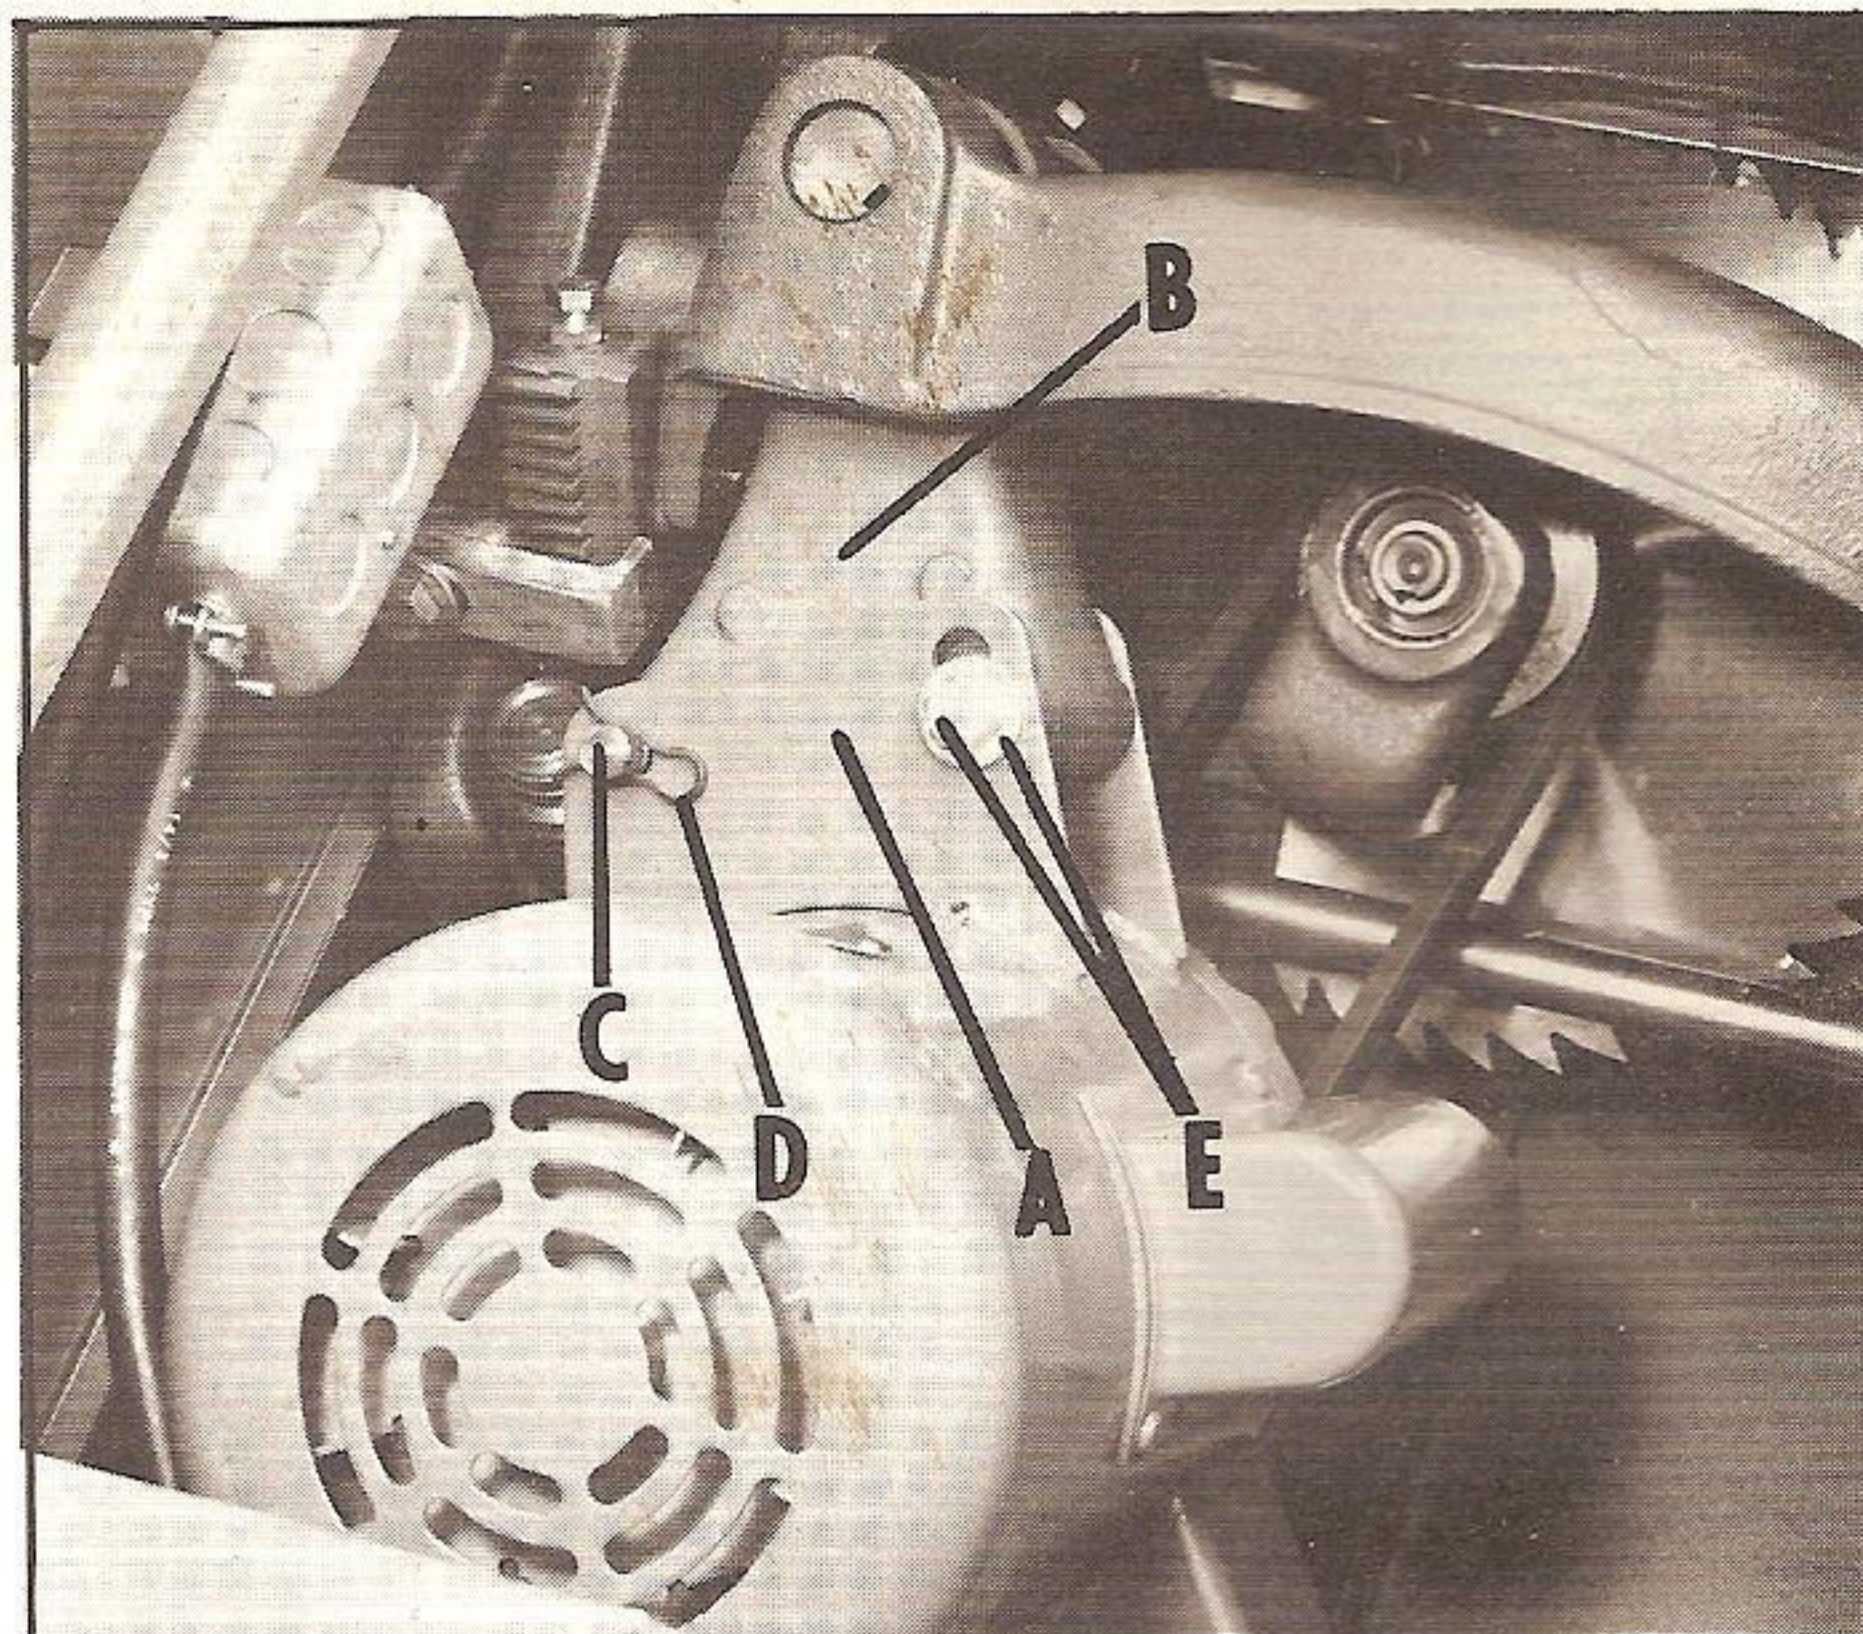

Fig. 4
4. Lower the motor into the cabinet so that the ears (A) of the motor, straddle the motor bracket (B), as shown in Fig. 4. The ideal position for the motor bracket (B) is when it is halfway between the high and low position.
5. Insert the motor pivot pin (C) through the ears (A) of the motor and the hole in the motor bracket (B) as shown in Fig. 4. Place the cotter pin (D) in place as shown and tilt the saw arbor to the highest position, which brings the motor to a convenient position for inserting the rear cotter pin.
8. After proper belt tension is obtained, insert cap screw and washer (E) as shown in Fig. 4, and tighten.